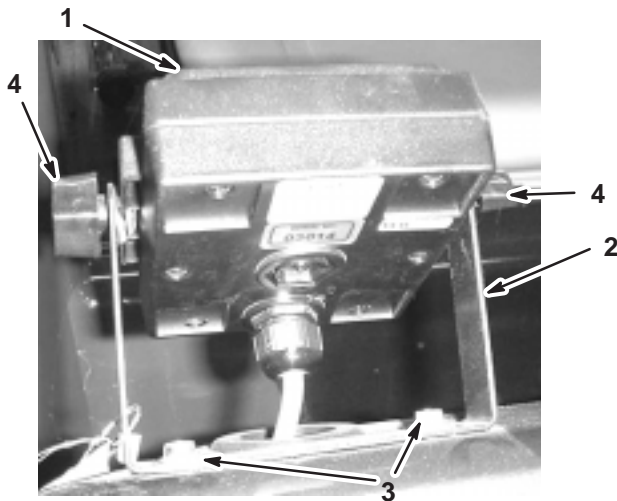

Figure 3
1. Install the monitor bracket on the dash (Fig. 3) using 2 flange-head bolts (1/4 x 3/4 inch) and 2 flange nuts (1/4 inch).
2. Loosely install the 2 carriage bolts, rubber washers, and knobs on the bracket as illustrated in Figure 3 and 4.
5. Install the Spray Pro monitor over the carriage bolt heads (Fig. 3) and tighten the knobs to secure it.